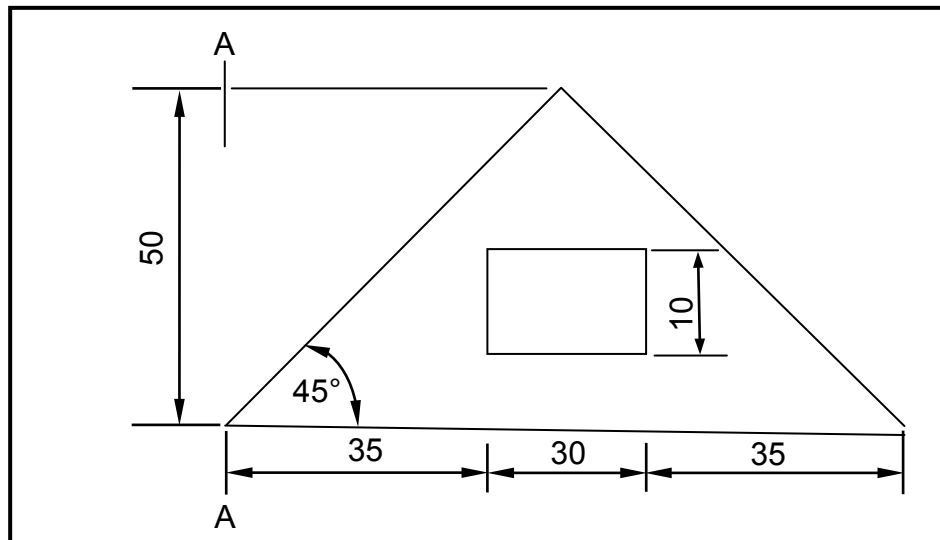

FIGURE 5.3
- 5.3 FIGURE 5.3 below shows a lamina of a triangle with a rectangular hole in it. Prove, by means of calculation, that the position of the centroid of the lamina from A–A is 50 mm. Show ALL steps of the calculation.